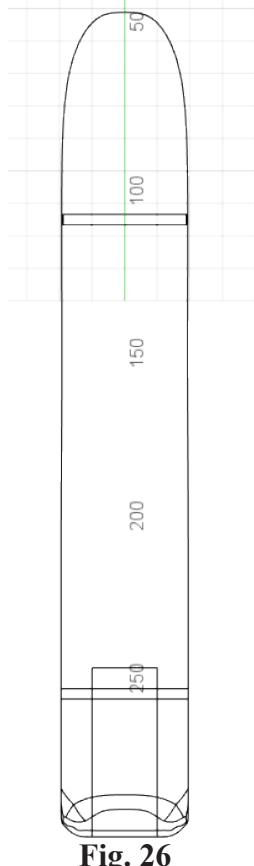

Fig. 27
Step 3. Click to place Points in the center of Body **forward of Front Axle** and **forward of Rear Axle**, Fig. 27.